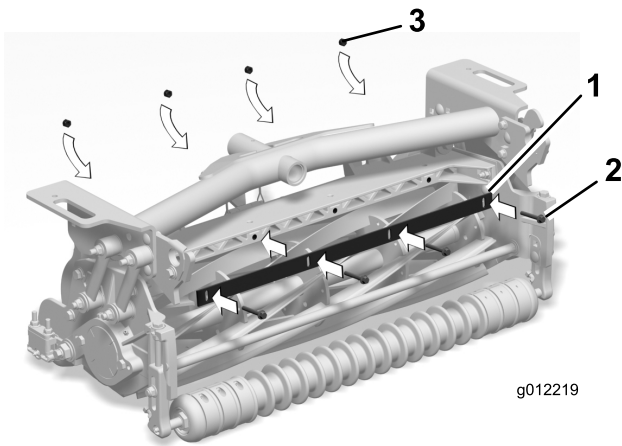

Figure 7
| 3. Loosely mount the cut-off bar to the cutting unit frame with 4 bolts (1/4 x 1-3/4 inches) and 4 locknuts (1/4 inch) (Figure 7). |                 |               |
5. Tighten the bolts and locknuts (Figure 7).